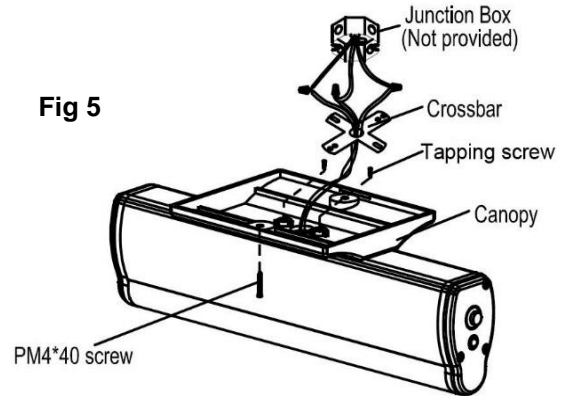

Fig 5
4. Put the hole plug (in the packing bag) to the side of fixture. (Fig 5)